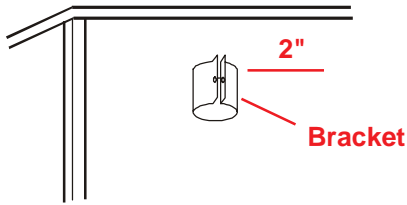

FIGURE 1
**Step 1.** Mount bracket 2" below edge of roof with screws provided, Figure 1.